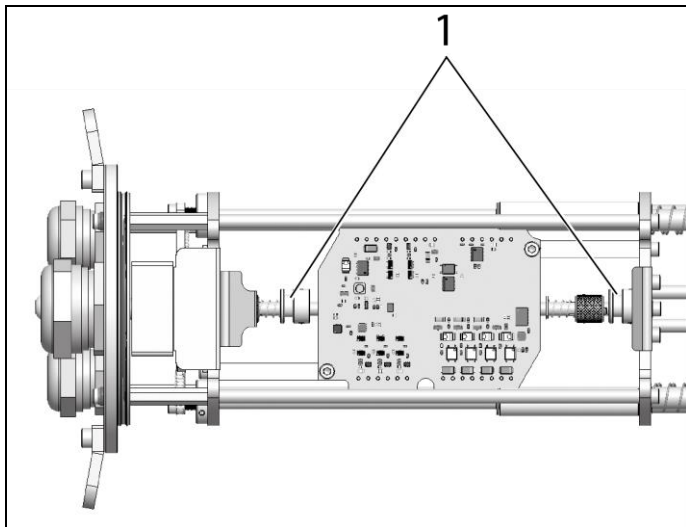
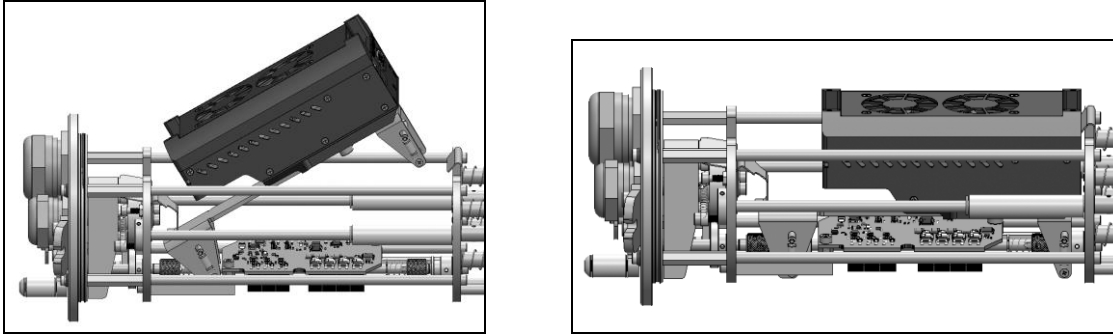

Figure 43: Notch to fix the TIM NetBox (top view)
Figure 44: Fitting the TIM NetBox into the chassis (right hand view)
At first push the fastening rail with the TIM NetBox into the left notch (1) of the shaft. Afterwards into the right notch (1) (**Figure 43**) until it is engaged (**Figure 44**).